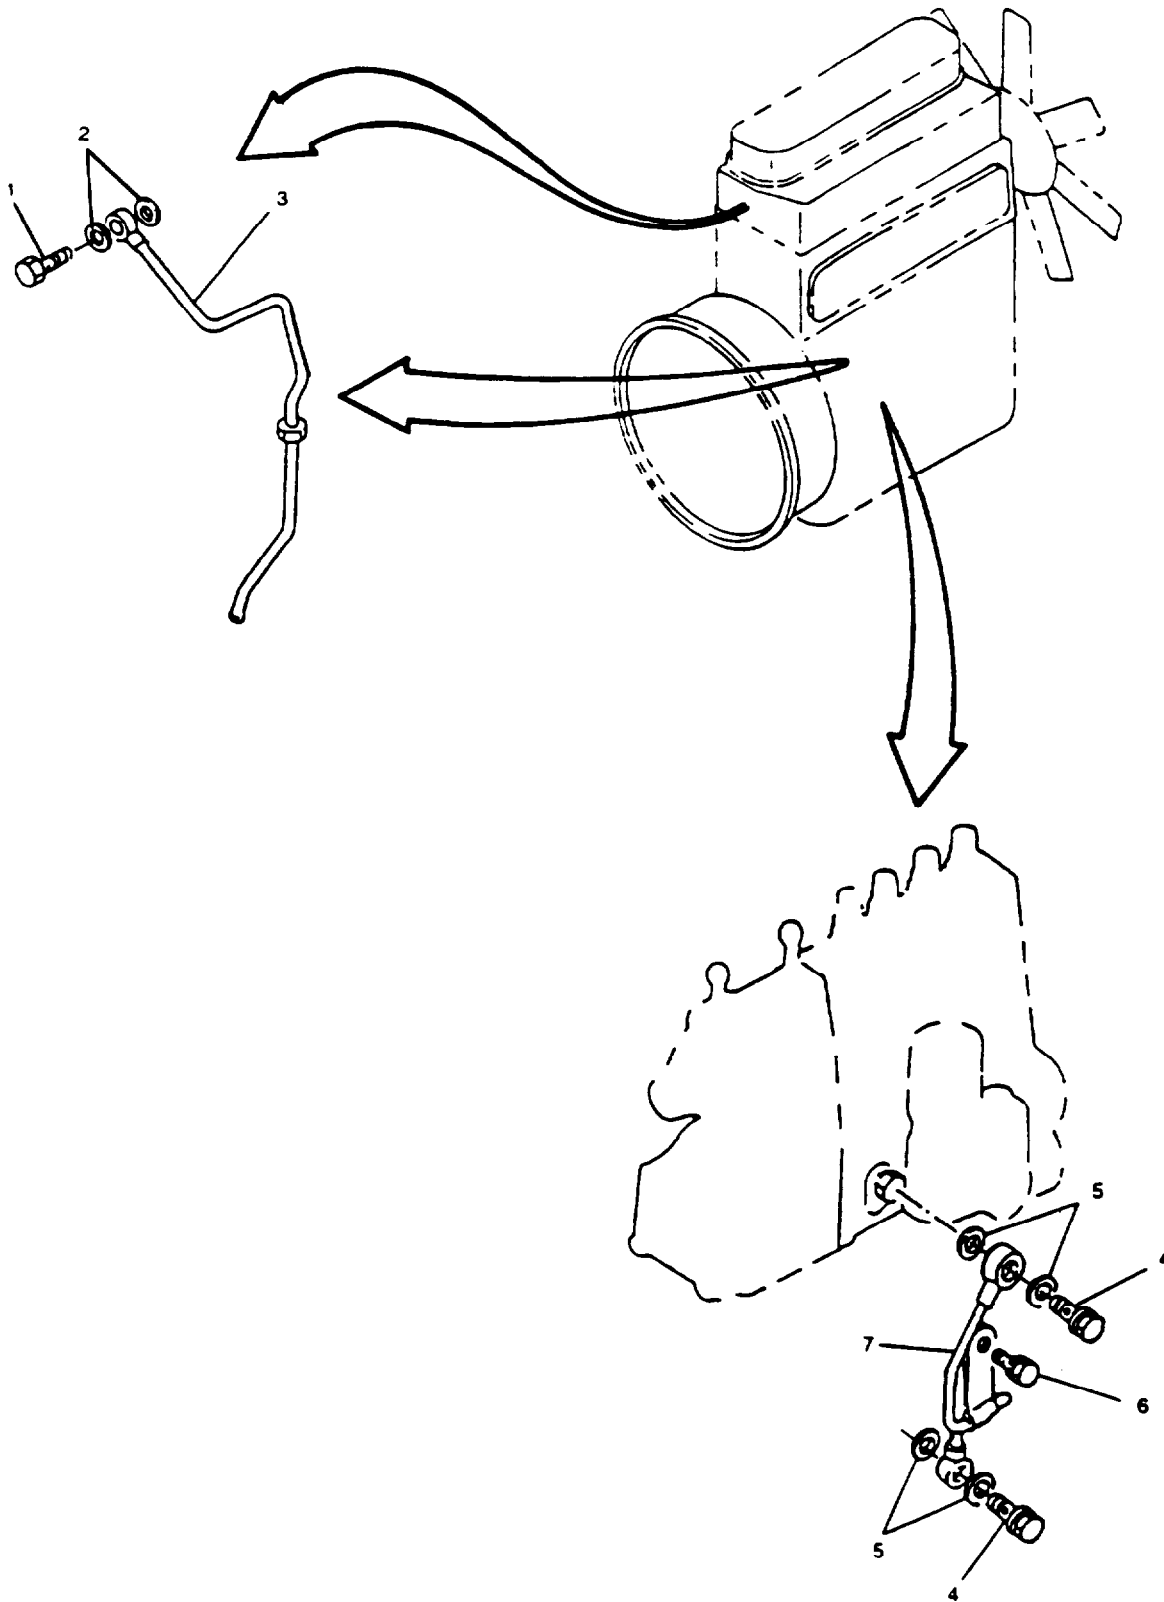

FIGURE 3-39. Oil Piping
- b. Remove fluid passage bolt (1, FIGURE 3-39) securing valve rocker oil feed pipe (3). Remove pipe and two gaskets (2). Discard gaskets (2).
- c. Remove two fluid passage bolts (4) and bolt (6) securing fuel injection pump oil pipe (7). Remove pipe and four gaskets (5). Discard gaskets (5).
- a. Position fuel injection pump oil pipe (7, FIGURE 3-39) and secure with four new gaskets (5), two fluid passage bolts (4), and bolt (6). Tighten bolts (4) to 84 in-lbs (9.5 Nm).
- b. Position valve rocker oil fuel pipe (3) and secure with two new gaskets (2) and fluid passage bolt (1). Tighten bolt to 84 in-lbs (9.5 Nm).